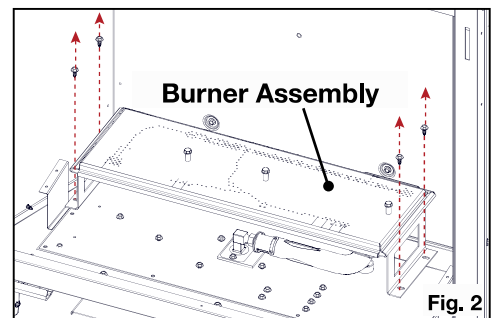

Fig. 2
4. Remove the four (4) screws securing the burner assembly in place (**Fig. 2**).